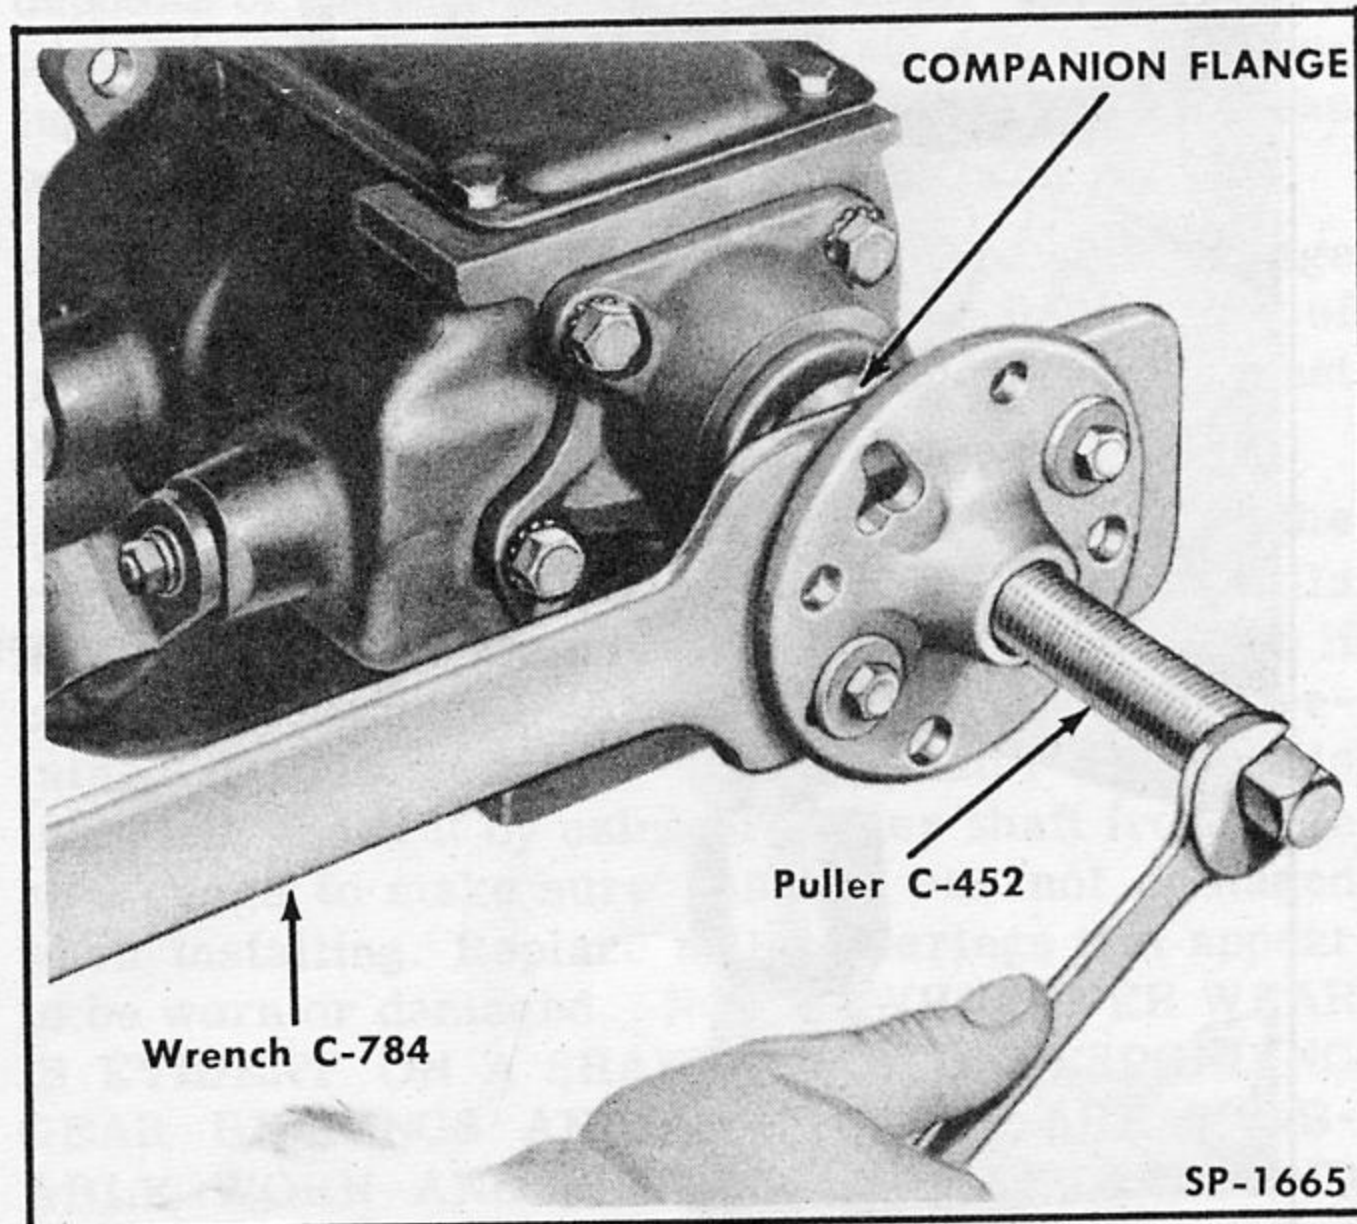

Fig. 126—Removing Companion Flange
2. Remove companion flange nut and washers using Universal Joint Flange Holding Wrench C-784 to hold flange from turning. Remove companion flange from transmission mainshaft using Universal Joint Flange Puller C-452 (Fig. 126).